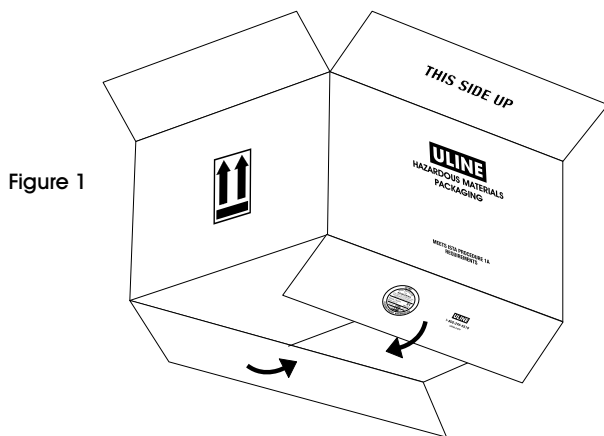

Figure 1
1. Fold flaps on bottom of carton so manufacturer's certification is visible on the outside of the carton. Gap between outside flaps cannot exceed 0.125". (See Figure 1)